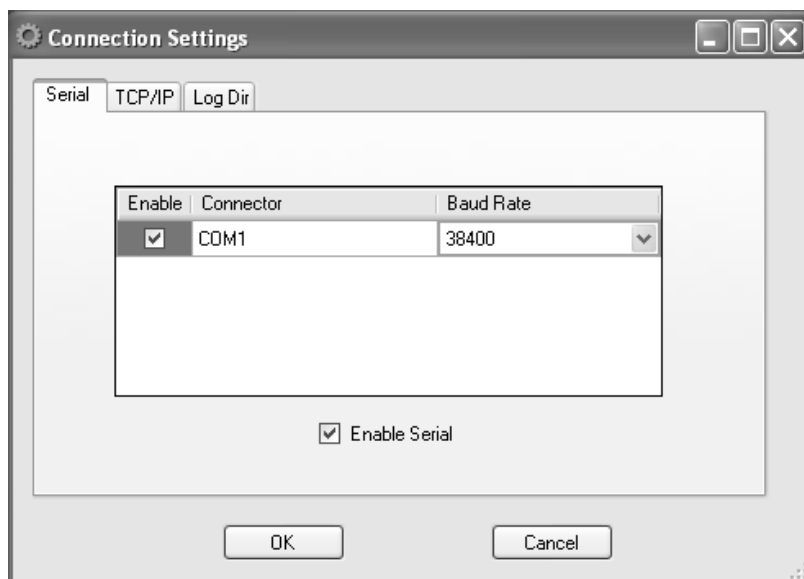

Fig. 2-13. Screenshot of ‘Serial’ selection in the ‘Connection Settings’ dialog box.
4. Click the ‘Main’ menu of the UGA software, and select ‘Connection Settings’. The following screen will appear as shown in Fig. 2-13.